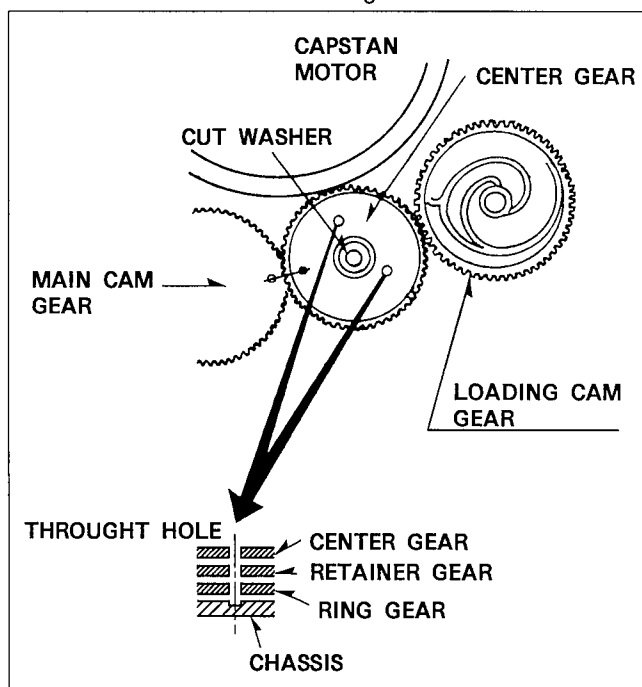

Figure M42
1. Install the Retainer Gear onto the Ring Gear so that the two holes on the Retainer Gear align with the two holes on the Ring Gear, at this time, small hole on the Main Cam Gear should aligns with small hole on the Retainer Gear as shown in Figure M42.
2. Install the Loading Cam Gear so that the small hole which is directly outside of the large hole on the Loading Cam Gear is aligned with the outside hole of the Retainer Gear as shown in Figure M42.